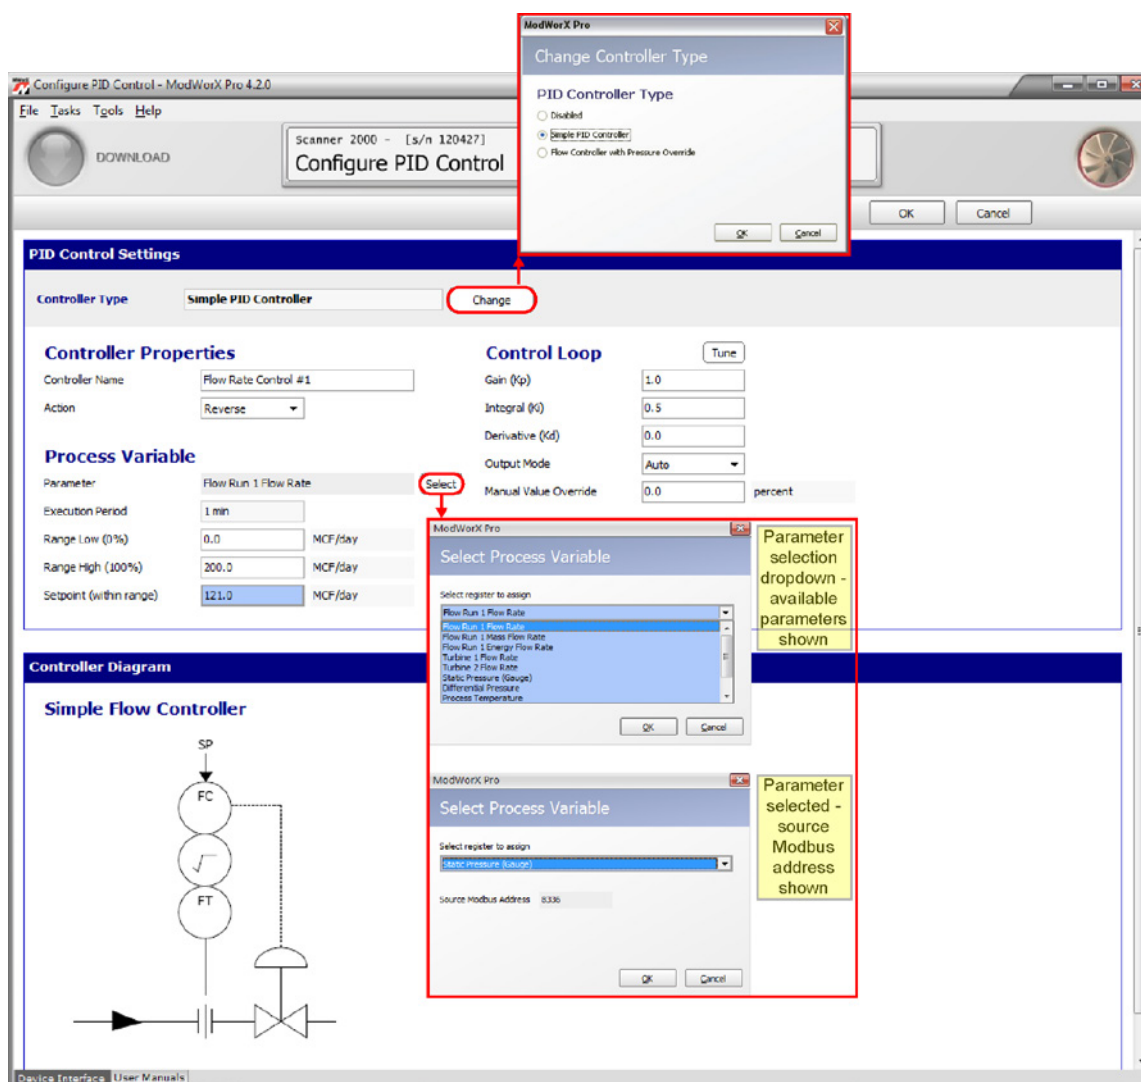

Figure B.5
1. From the Scanner 2000 Configuration Menu, click the **PID Control** button to access the Configure PID Control screen (Figure B.5).
5. Enter the Range Low and Range High values for the process variable being controlled in the fields provided. In Figure B.5, the range is 0 to 200 Lit/hour.
1. From the Scanner 2000 Configuration Menu, click the **PID Control** button to access the Configure PID Control screen (Figure B.5, page B-5).